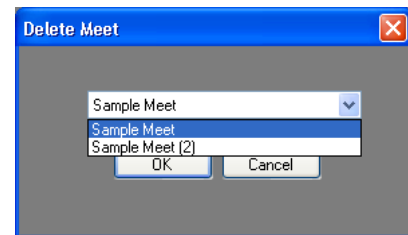

Figure 125: Delete Meet Window
1. Select the meet to delete from the drop-down list (Figure 125).